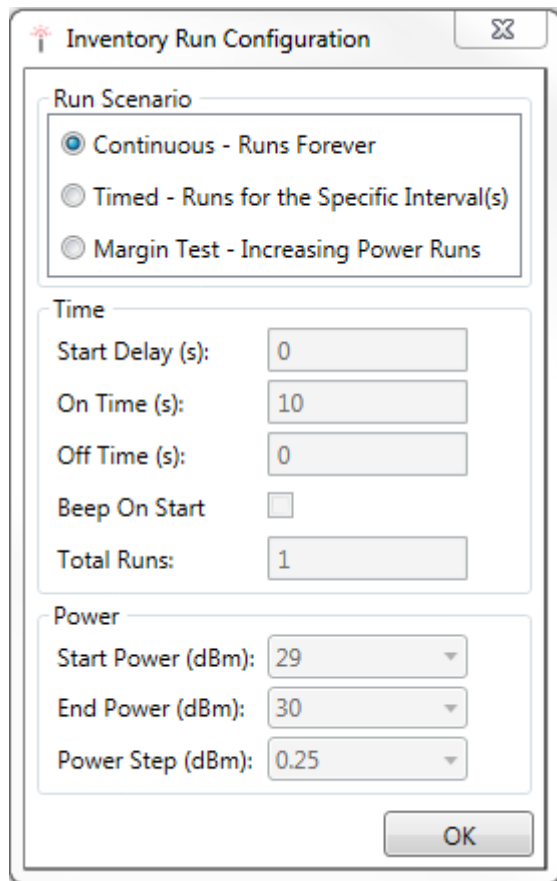

Figure 6.6 Inventory Results
2. By default, ItemTest starts and collects tag read reports for the Gateway for 10 seconds. The results are displayed in tabular form, as shown in Figure 6.6.